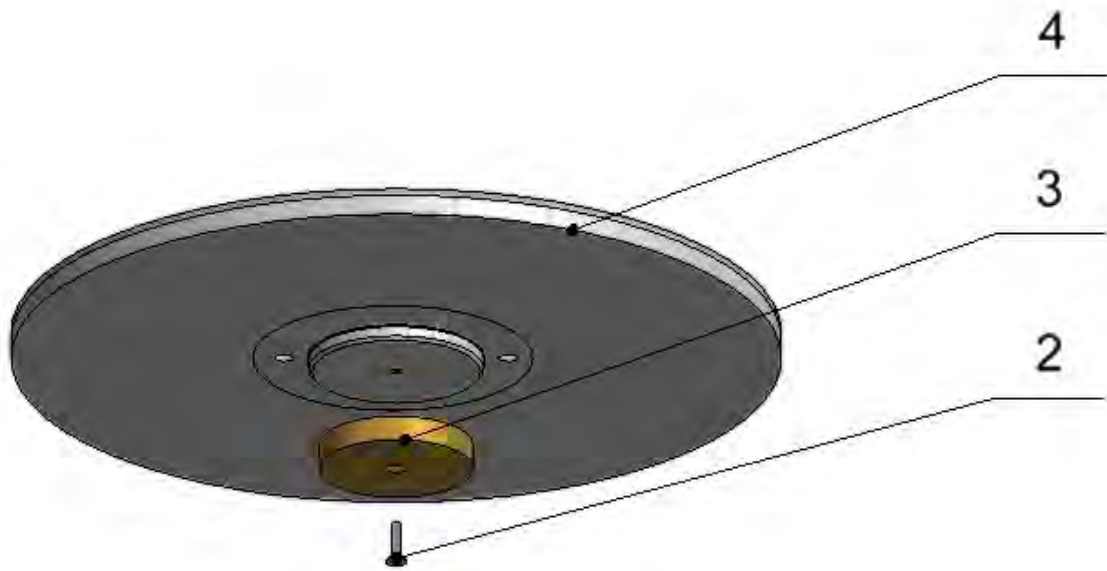

Fig.2
- Use M3 screw (2) to fix a ballast weight (3) to a weighing pan (4). (Fig. 2)